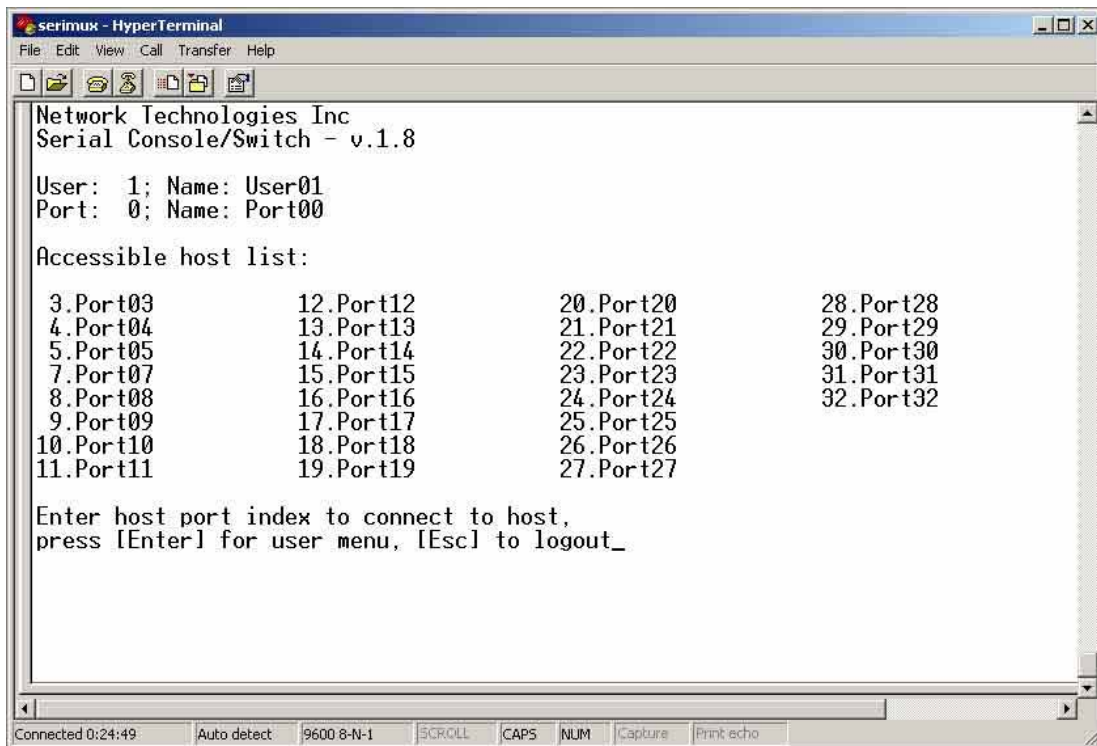

Figure 6- Startup- Accessible host list
1. Press [Enter] on the keyboard to be recognized as the default SERIMUX user. The "Accessible host list" for "User01", logged in at "Port00" will be displayed (see Fig 6). By default, all ports are configured as Host ports and all are accessible.
When [3] is pressed to change the in-band disconnect sequence, the choices provided are 0, 1, 3, or T. Pressing a [T] will bring up a Control code list containing key sequences used for 1-character sequences, and the ASCII codes associated with each. (See Fig 6) To set a 1-character sequence, press [1], then the code from the table associated with the desired sequence.